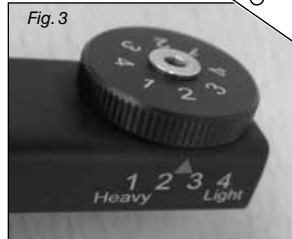

Fig. 3
- Turn the dial to the appropriate number to change the holding force. The number 1 refers to the heaviest holding force (for heavy screw use) and number 4 refers to the lightest holding force. (See Fig. 3)